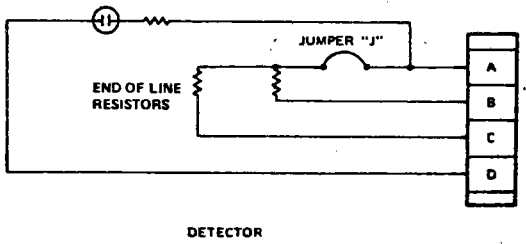
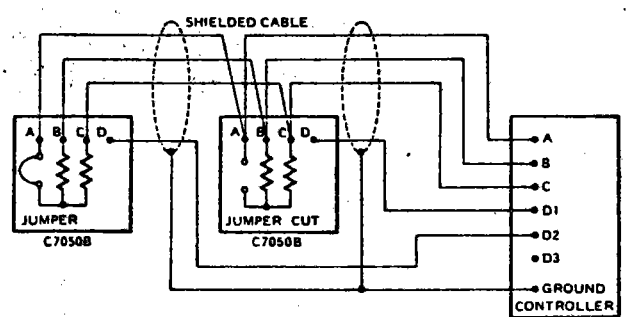

Figure 1-End Of Line Resistors.
Figure 2-Typical Wiring of Parallel Detectors.
It is possible to connect up to four detectors directly to the controller and up to eight detectors to the controller with field modifications of the detectors. Terminals A, B, and C on the controller terminal panel connect to A, B and C in the detectors. The detectors are wired internally with "End Of Line" (EOL) lead monitoring resistors between terminals A and B and A and C. See Figure 1. Up to four detectors may be connected to the controller in parallel with their EOL resistors connected. If more than four detectors (up to eight) are used, two or more detectors may be connected together, but this requires a modification of all except the detector at the end of the line. The jumper shown in Figure 1 must be cut in all but the last detector and in addition the A, B, and C wires from the first detector must be connected directly to the A, B and C connections in each succeeding detector. See Figure 2 for example of wiring. The wires A, B and C from the first detector are then connected to the appropriate terminals on the controller.
The C7050B Detectors shown in Figure 2 are used with controllers that have the "oi" feature.
8. Attach leads from controller to terminal block in terminal cap. See Figure 4. Be sure the A connection on the detector goes to the A connection on the controller, B to B and C to C. On the controller with the  $\phi_j$  feature, the D lead from each detector goes directly to the D connections on the controller. See Figure 2. For further information on wiring and EOL resistors, see the respective controller manual.
9. Trim back the shield so it is isolated from ground. The shield is grounded only at the controller as shown in Figure 2.
12. Check jumper "J." If detector is not the end one, as shown in Figure 2, cut jumper "J."